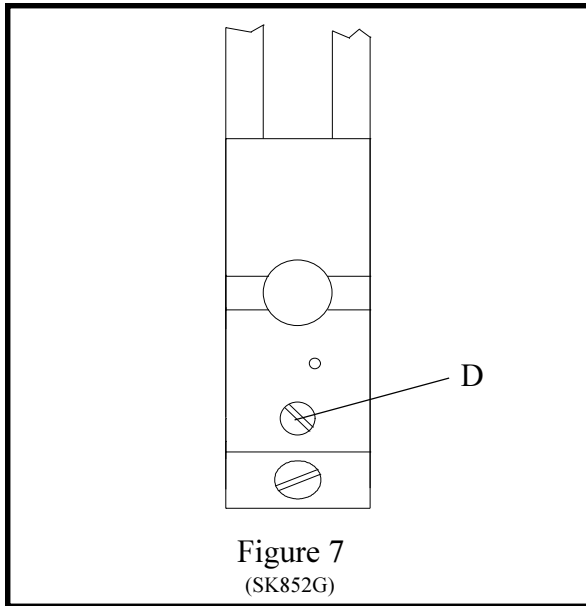

Figure 7
C. Head/Clincher Alignment (Figure 7)
1. To adjust for front-to-rear alignment: (Fig. 7)